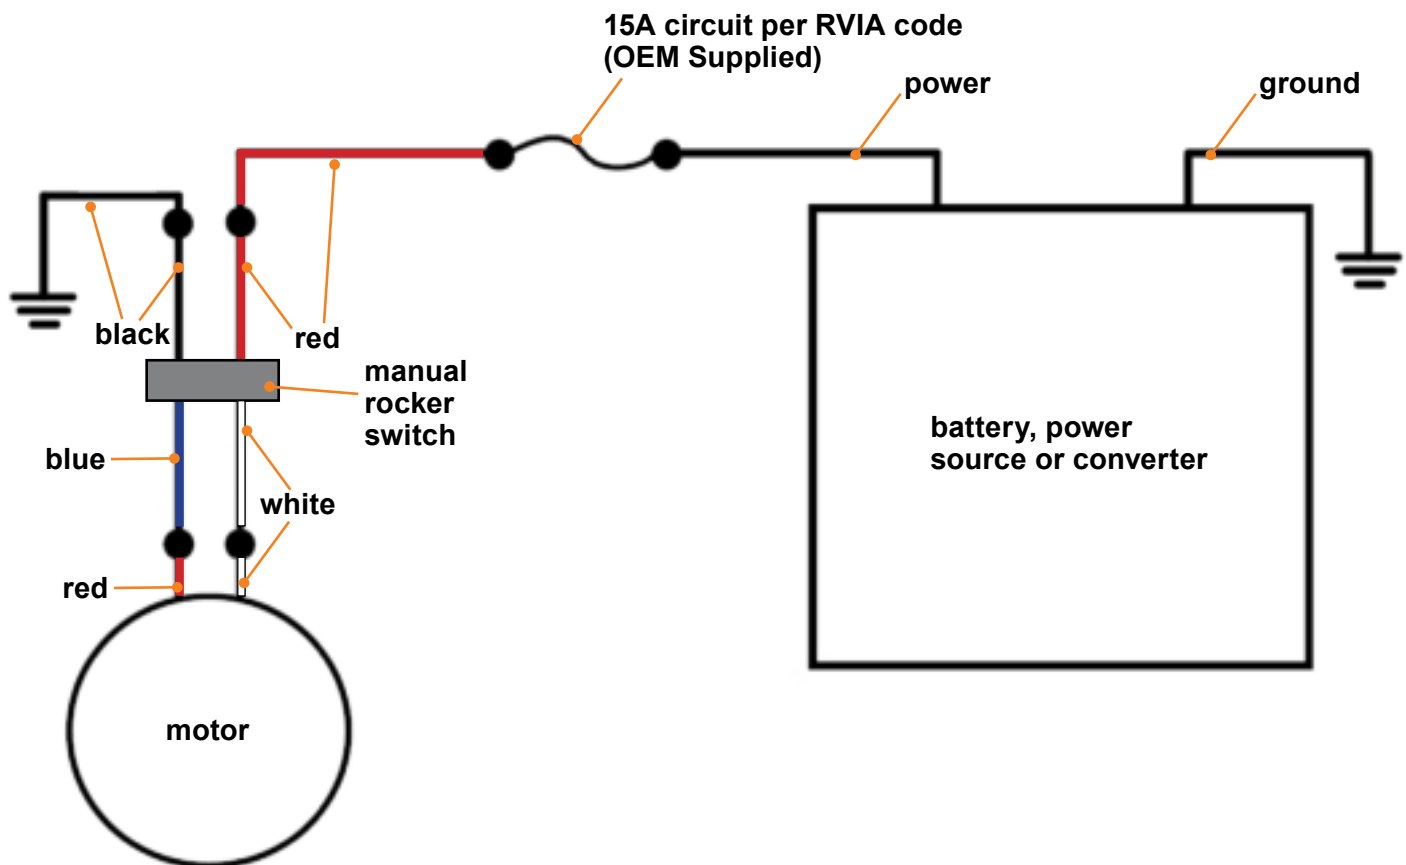

Fig. 10
2. Connect wiring from the unit to the switch and the awning drive head per the wiring diagram below (Fig.10).